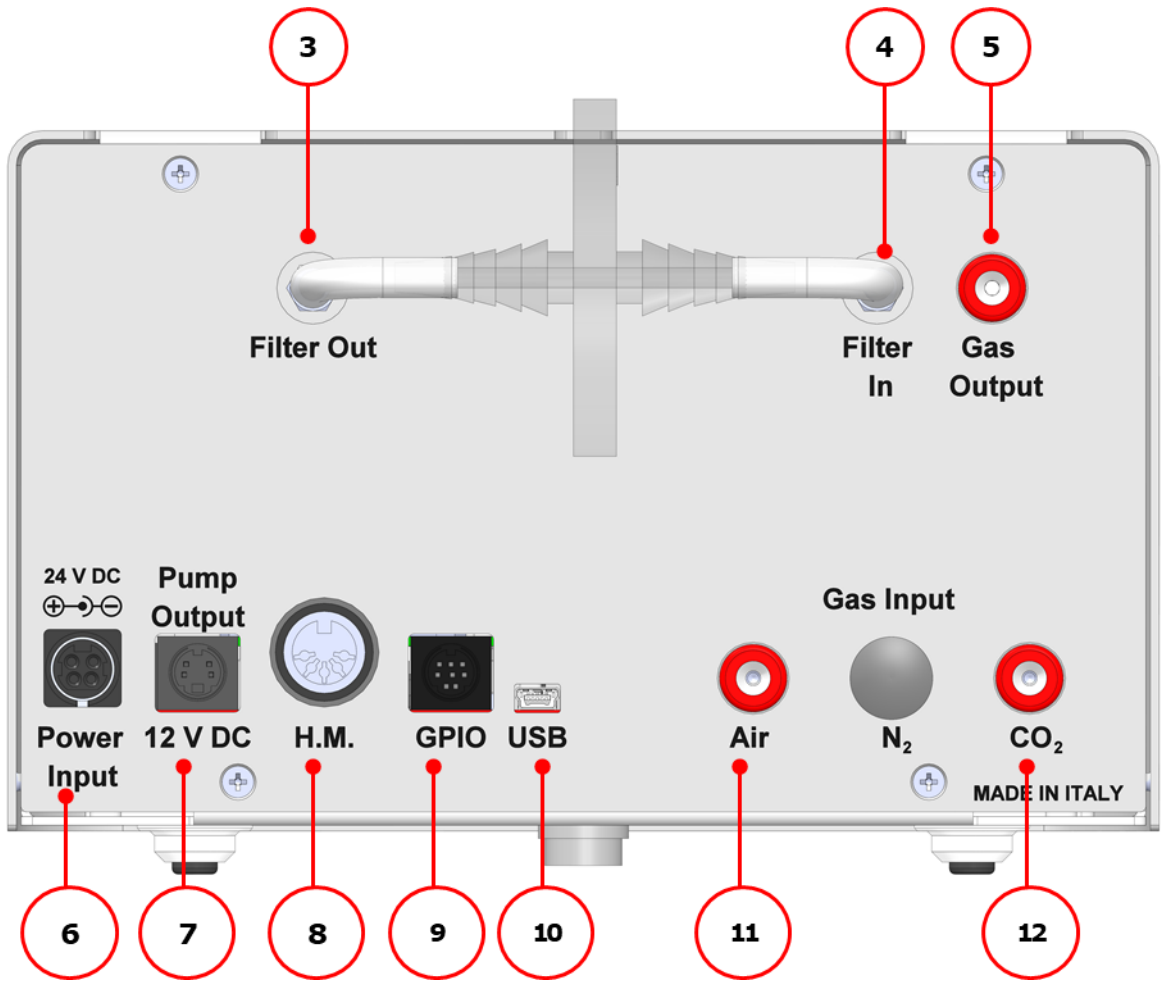
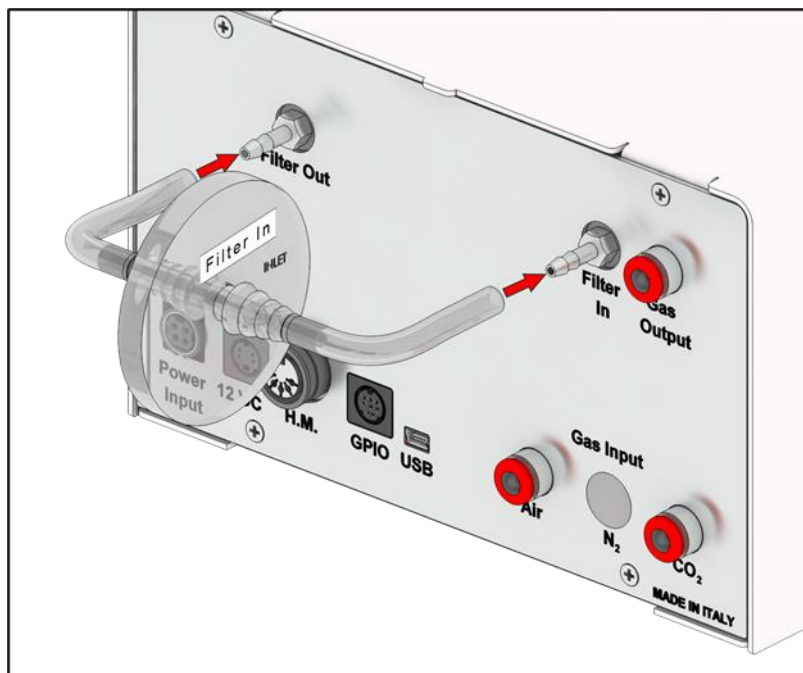

Figure 5. Gas Controller Rear Panel Overview.
Figure 9. How to install TUBE-CB.
Figure 5 illustrated CO2-UNIT-BL rear panel:
2. Install the **TUBE-CB** on the rear panel of CO2-UNIT-BL. It filters the Air/CO2 flow before it enters in contact with CO2-UNIT-BL gas sensors. Connect the TUBE-CB with the *Filter In* and *Filter Out* connectors on the rear panel of CO2-UNIT-BL (3, 4 in Figure 5). Make sure the *Filter In* label side of the filter is always connected to *Filter In* connector on the rear panel of CO2-UNIT-BL (see Figure 9).